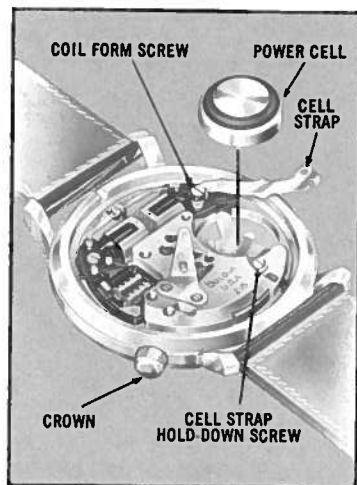

Fig. 3
5. Now insert the power cell with the imprinted side facing down into the movement. (See Fig. 3.)